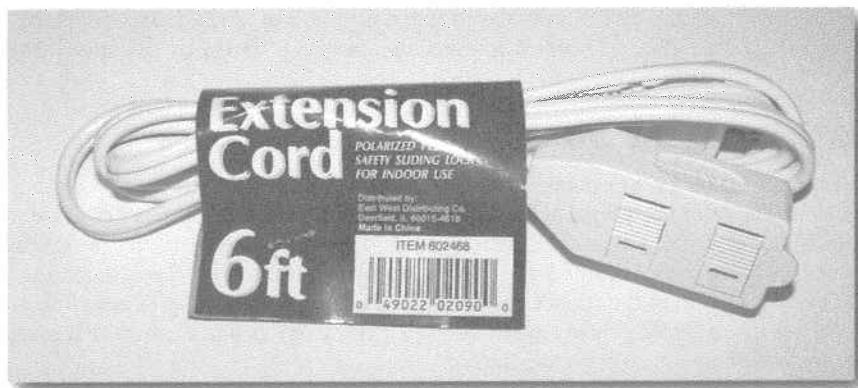

FIGURE 22-5: A household power extension cable.
- A household power extension cable as shown in Figure 22-5, in case the power cable from the display doesn't reach (\$2)
Run the power cable from the display to an available AC power socket, such as one on your AC inverter, one built into your car, or one on a household extension plug similar to the one in Figure 22-5.